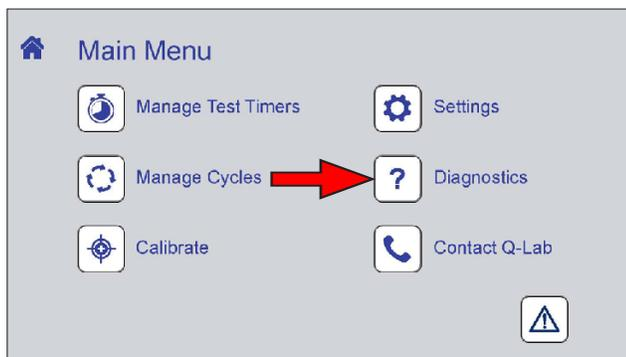
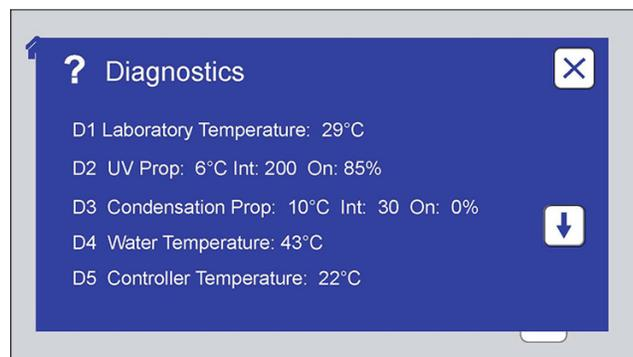

Figure 11.9a: Touch the Diagnostics icon on the Main Menu screen to display diagnostic information.
Figure 11.9b: The Diagnostics screen displays current machine operating conditions.
- On the Main Menu screen, touch the Diagnostics icon (Figure 11.9a) to display the Diagnostics screen (Figure 11.9b).